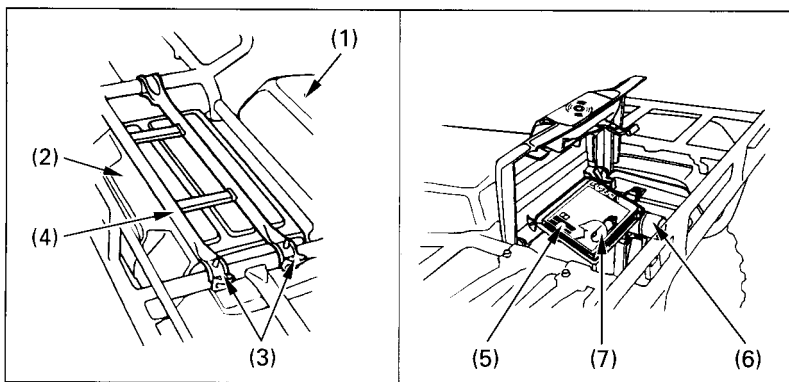

Fig. 2-28
The storage compartment (Fig. 2-28) is behind the seat. To open the compartment, unhook the rubber straps (3) and lift the rear rack (4). The owner's manual (5), tool kit (6), and air pressure gauge (7) should be stored in the storage compartment (2).